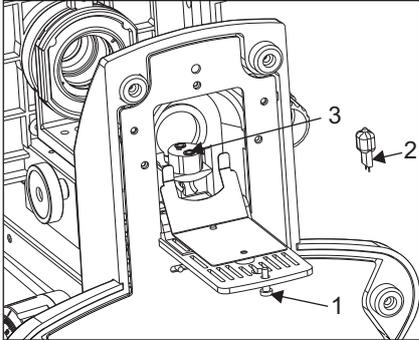

Fig. 15
1. Pull the lock knob (1) on the bottom to open lamp housing door (fig. 15).
2. Hold the halogen bulb (2) without taking it out of the polyethylene bag so as not to taint the bulb with fingerprints and push the bulb into the pin holes on the socket (3). After attaching, remove the polyethylene bag.